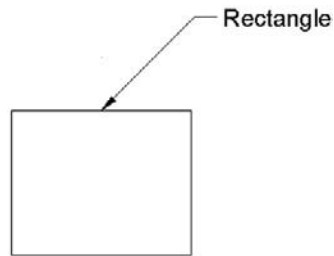

FIGURE 6.14
This is an *arrow and label* combination pointing at something (Figure 6.14).
- Step 2.** Click with OSNAP precision on your shape, perhaps a midpoint on the top side, as seen in Figure 6.14.